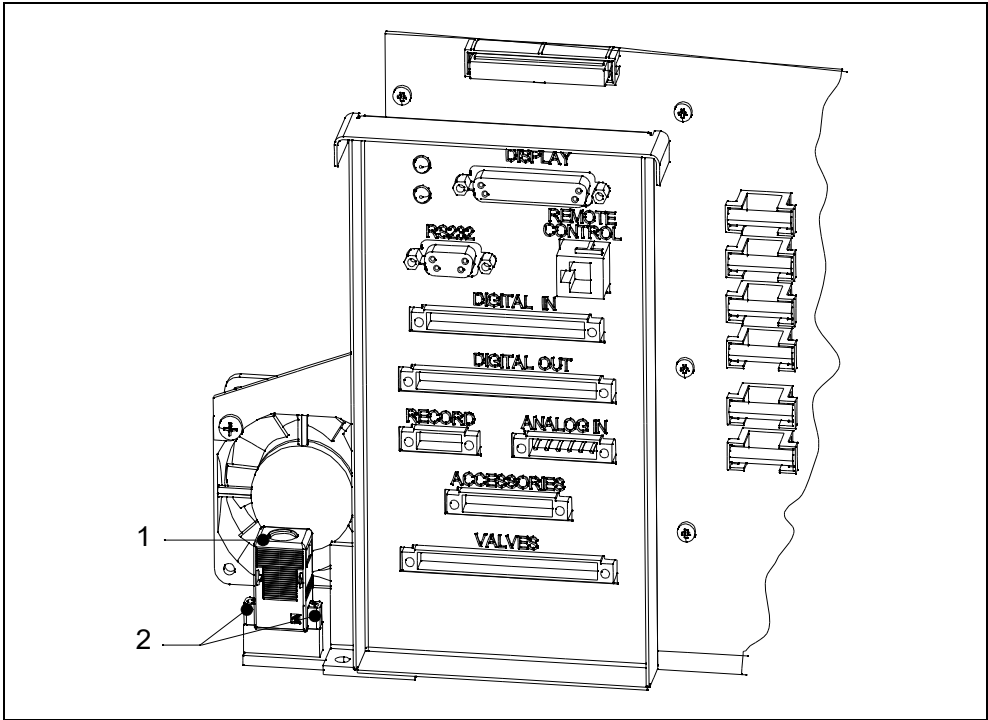

Fig. 7-7 I•STICK replacement
- To replace the I•STICK, loosen the two screws with which the I•STICK is screwed on the socket. See Fig. 7-7 below for more information.